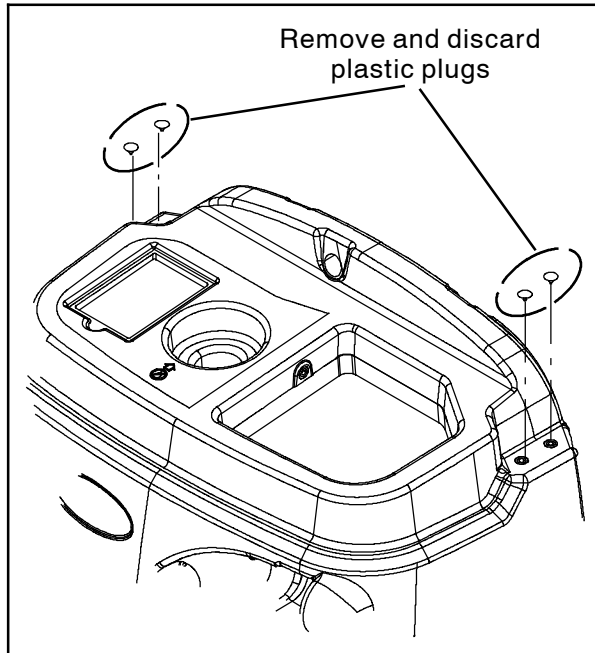

FIG. 6
1. Remove the plastic plugs from the recovery tank. Discard the plastic plugs. (Fig. 6)